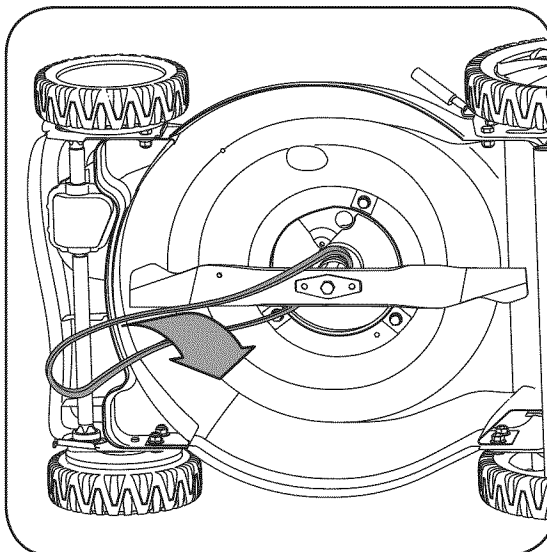

Figure 5-5: Remove belt from around blade.
3. Push transmission up a little and slide belt off the transmission pulley. Lift mower to access belt from underside of mower. Slide belt off of engine pulley and around the blade, Figure 5-5.